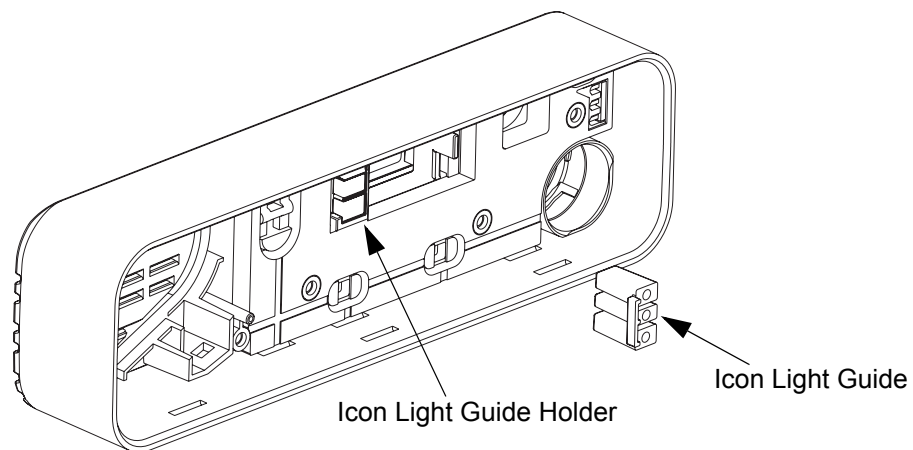

Figure 5-34 Icon Light Guide Assembly
3. Assemble the icon light guide into the icon light guide holder as shown in Figure 5-34.